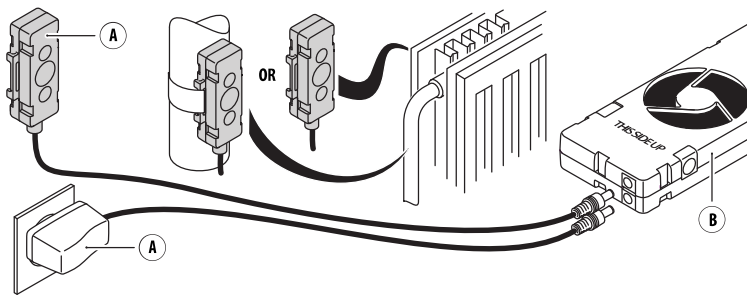

Fig. 3 - Connect the power adapter (A1) and temperature sensor (A2).
- Attach the **temperature sensor** (A2) with its magnets (a2, a3) on the back of the radiator, close to the warm water supply pipe, or on the pipe itself (see fig. 3).
5. Connect the **power adapter** (A1) to the remaining **female connector** (b1 or b2) and the wall socket (see fig. 3).